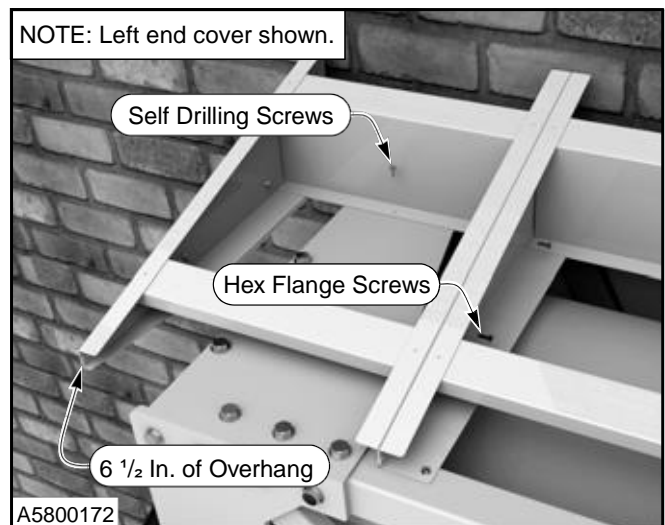

Figure 42
14. Check the overhang measurement. It should be approximately 6 $\frac{1}{2}$ in. from the outer edge of the top plate. (See Figure 42)